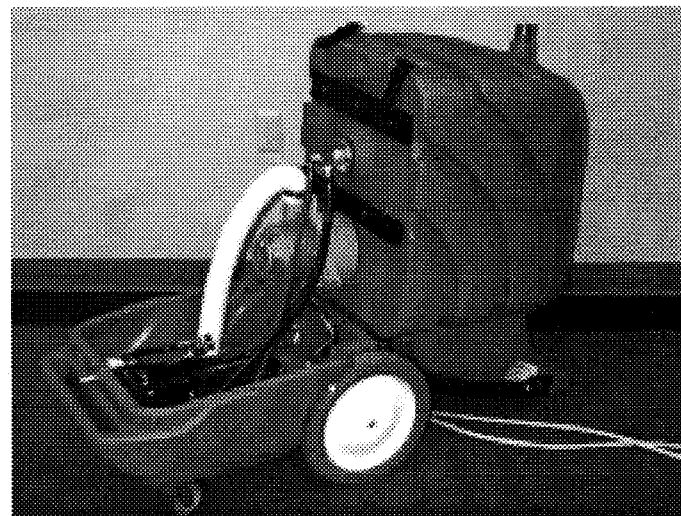

Fig. 13
- c. Lift tank upward, away from chassis. (Figure. 13)